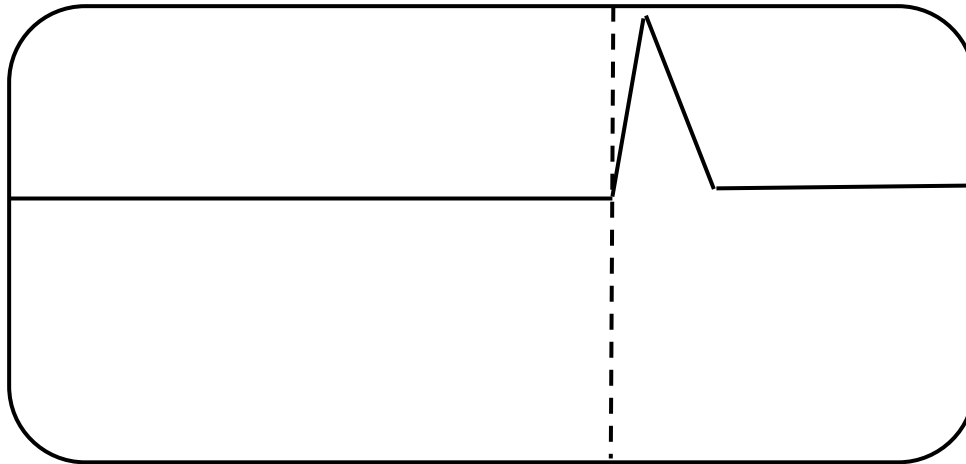

Fig.2
- (1) Opens are caused when one or both. Conductors of a pair are disconnected or broken. The reflection is upward polarity pulse, Fig.2
- (2) Open sheaths are caused by a break in the cable sheath. To locate such faults, connect the line terminals to the sheath and to as many cable conductors as possible to reduce the clutter on the screen. This fault produces a fault pulse whose amplitude depends on the resistance of the break.